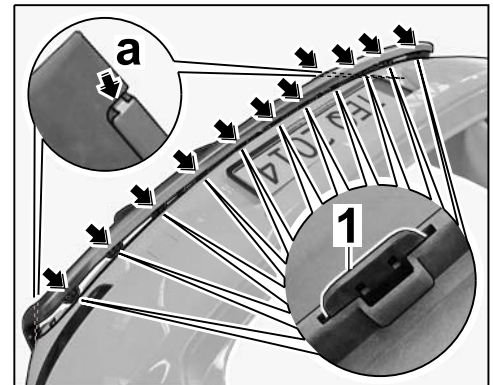

Figure 8
- 2.8.2 Guide the side tabs ⇒ *Figure 8* -**arrow a**- into the rear apron.